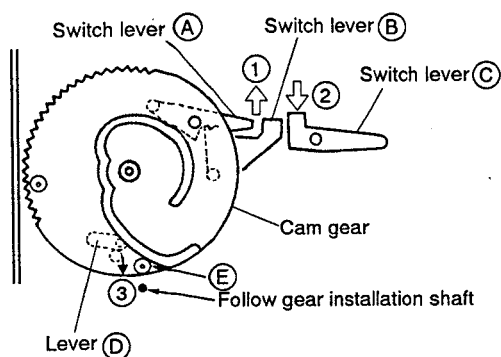

Fig. 11
- ② Move switch levers ① and ② (Fig. 11) in the direction of arrow ① (SW is ON), switch lever ③ in the direction of arrow ② and lever ④ in the direction of arrow ③.
- ② Install the cam gear when the cam gear comes to the position as shown in Fig. 11.